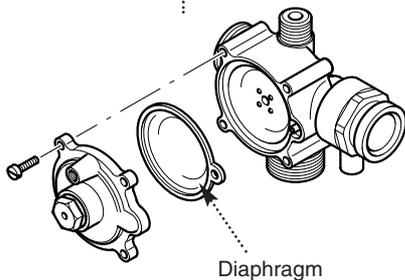

Fig. 64
12.22 Central Heating Differential Valve Microswitch (Fig. 64)